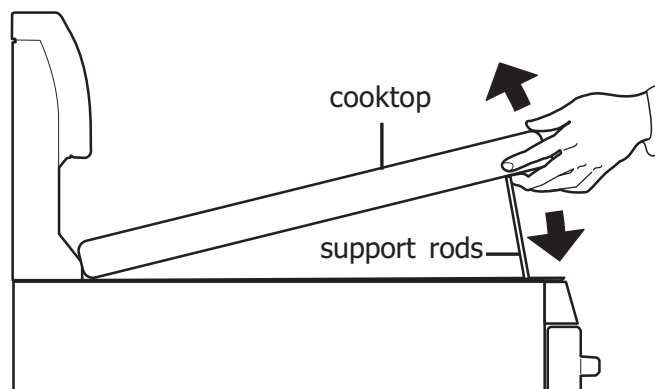

Figure 22: Lifting cooktop
1. Grasp the sides and lift from the front (See Figure 22). Lift-up rods will support the top in a raised position. Only lift the cook top far enough to allow the support rods to snap into place.